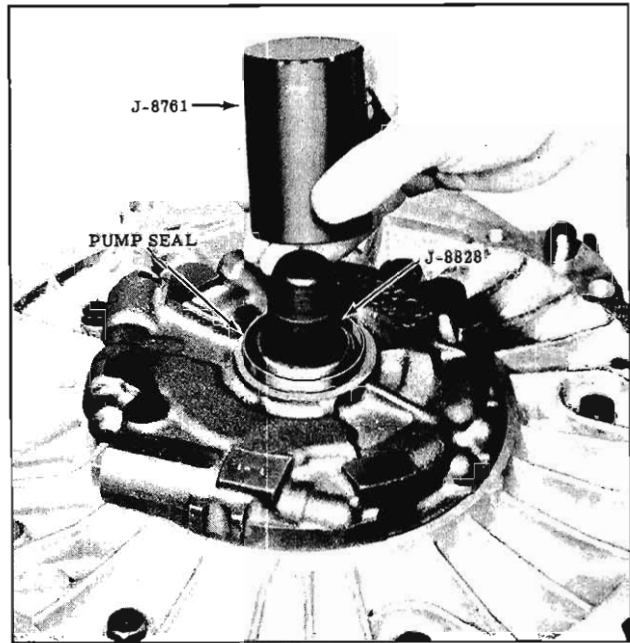

Fig. 6-32 Installing Pump Seal
- d. Install seal using Tool J-8761. (Fig. 6-32)